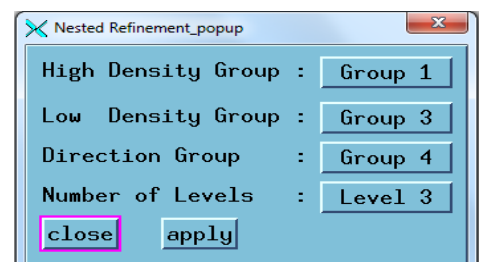

Figure 24
- Select group 1 as High Density Group, group 3 as Low Density Group and group 4 as Direction Group as seen in figure 24.